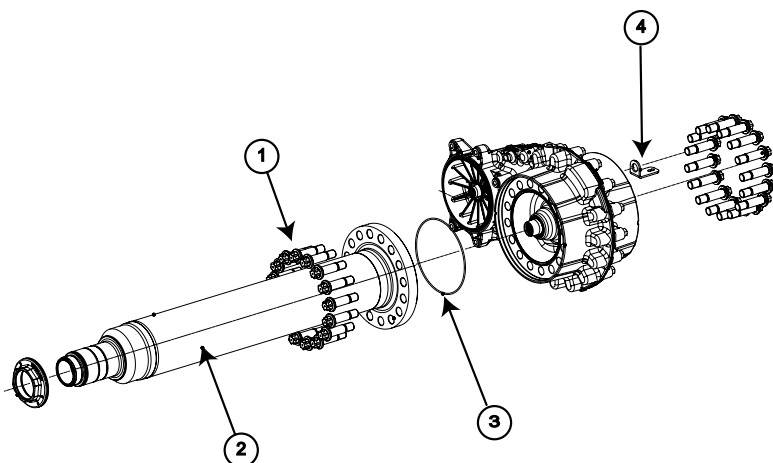

Fig. 23: Gearbox change
- Remove the screws/bolts of the axle halves at the flange. „Fig. 23: Gearbox change“ on page 47,